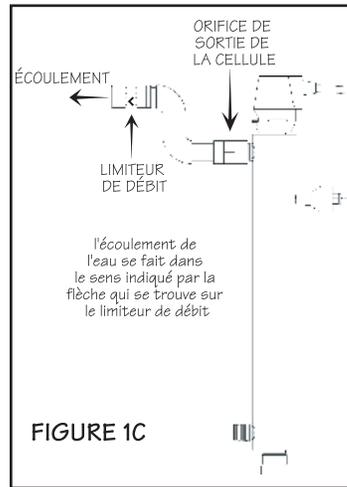

FIGURE 1C
3. Mount the system to the wall using the supplied clamps. Various connection methods can be used to connect the water source to the system, however union type connectors are recommended. The use of a flow restrictor device is strongly recommended when installing your system in order to maintain the manufacturer's rated flow rate. The flow restrictor should be installed on the outlet port and is designed to be installed in one direction only. Ensure that the flow of the water matches the flow direction as indicated on the flow restrictor (Figure 1C). DO NOT SOLDER CONNECTIONS WHILE ATTACHED TO THE SYSTEM AS THIS COULD DAMAGE THE O-RING SEALS.